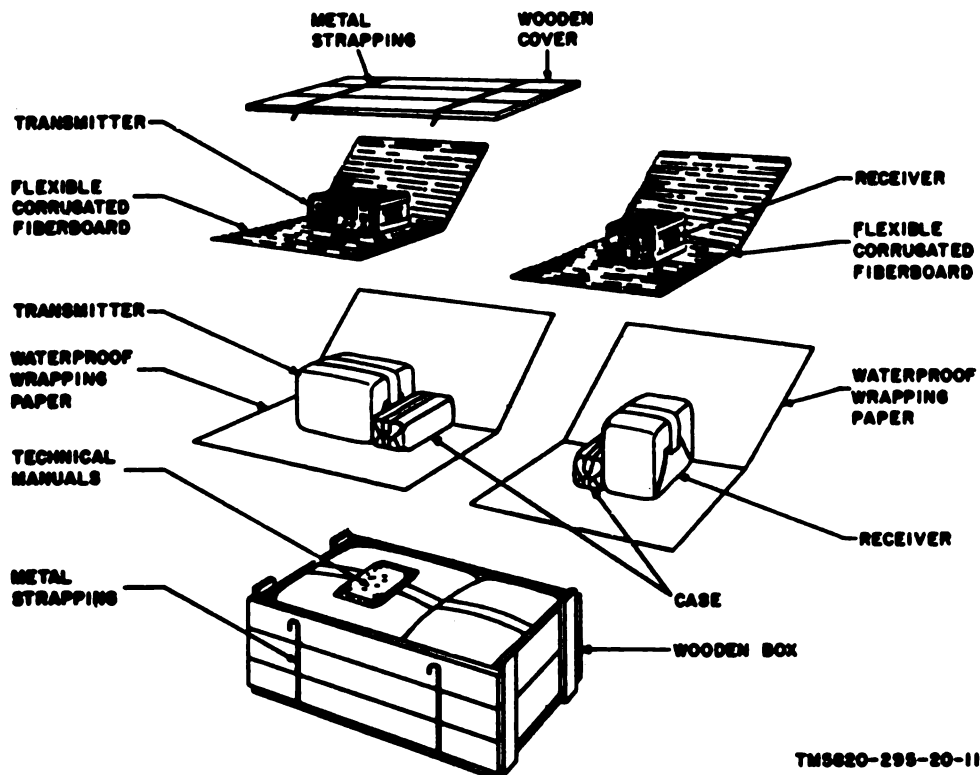

Figure 11. Transmitter, receiver, and literature, repackaging diagram.
- (1) *Technical manuals* (fig. 11). Package each technical manual within a close-fitting bag fabricated of waterproof wrapping paper. Seal the bag securely with water-proof, pressure-sensitive tape.
- (3) *Radio Receiver R-392/URR* (fig. 11). Place the running spares for the receiver within Case CY-1298/URR. Close and secure the case lid with its fastening devices. Wrap the case with corrugated fiberboard. Secure the wrap with pressure-sensitive tape. Wrap the receiver with corrugated fiberboard. Secure the wrap with pressure-sensitive tape. Place the wrapped case and wrapped receiver together and wrap with corrugated fiberboard and overwrap with waterproof wrapping paper. Secure the overwrap with waterproof, pressure-sensitive tape.